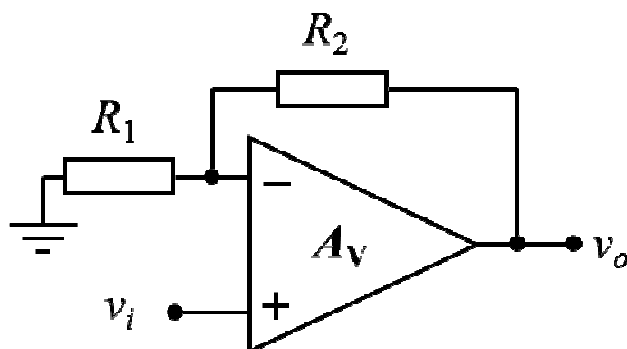

Figure 6.1
- a. Is the amplifier configuration shown in figure 6.1 an inverting amplifier or a non-inverting amplifier? (1)
- b. Assuming  $A_v \rightarrow \infty$  for the operational amplifier used in figure 6.1 and using the assumption that  $v^+ = v^-$ , derive an expression for the voltage gain  $v_o/v_i$  of this circuit in terms of the circuit components only. (3)
- c. In figure 6.1, let us now assume that the operational amplifier gain is actually  $A_v$ , where  $A_v$  is a very large number but **not** an infinitely large number. Show, by deriving an expression, starting from the voltages at the two operational amplifier inputs, that the gain  $v_o/v_i$  of such a circuit can be expressed as: